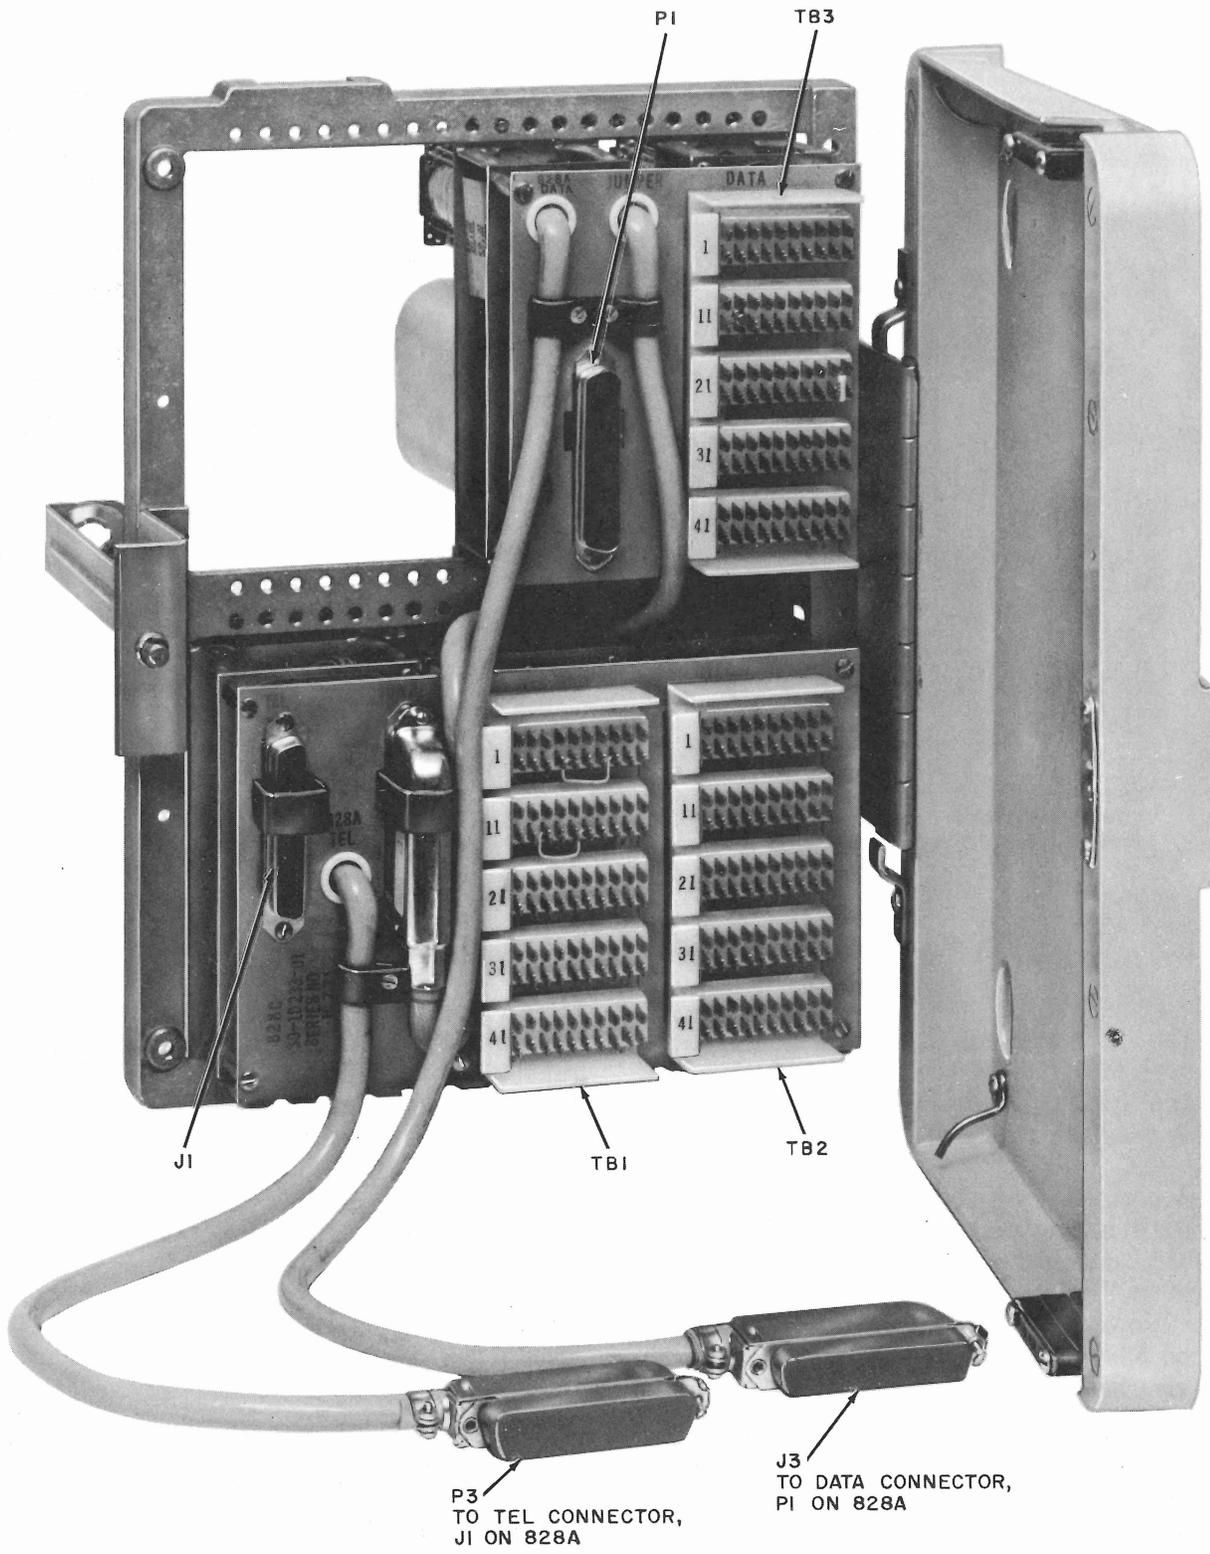

Fig. 4—Rear View of DAS 828C-L1A Showing Connector Cords and Terminal Blocks
8. Data Set Connection to DAS 828C	Specify and order cord per Table C. For data set 202-type, also specify wiring per Section 598-080-201, Fig. 4.
The mounting frame is hinged to a 177A backboard, providing access to the rear of the units as shown in Fig. 4. The package arrangement is completed by a light olive gray dust cover (116A).